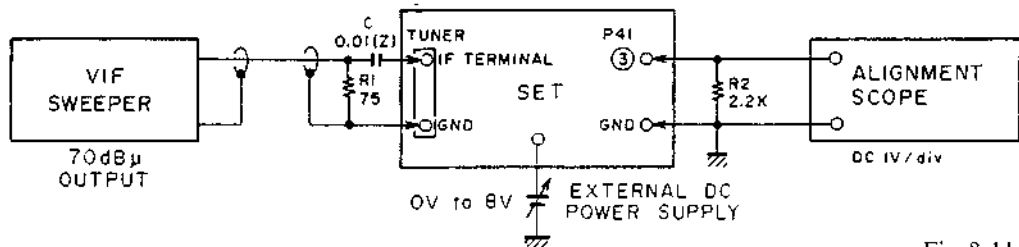

Fig. 8-11
8-6-2. AFT ADJUSTMENT (Refer to Figs. 8-11, 8-12)
- Supply DC5.0V to IC1 pin ⑭ from the External DC power supply.
- Connect an alignment scope as shown Fig. 8-11.